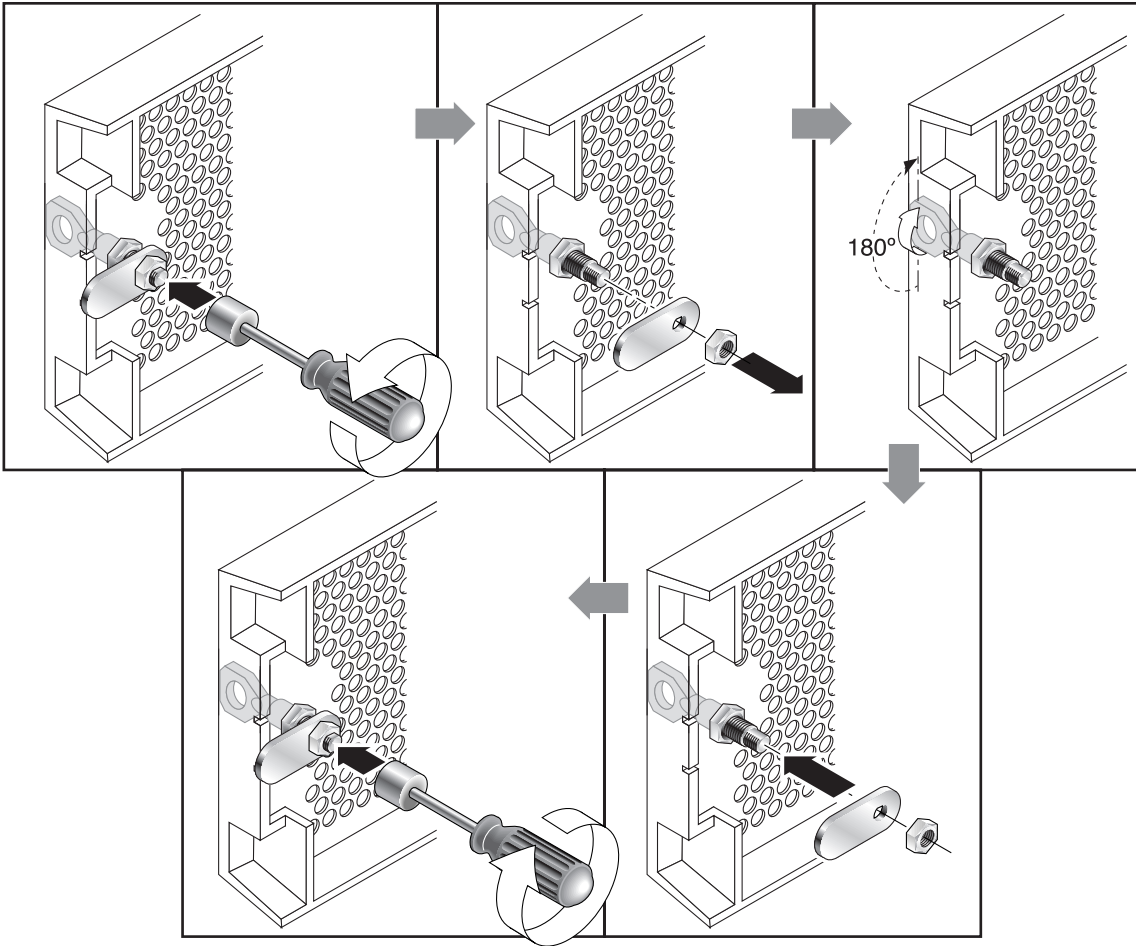

FIGURE 4-2 Sequence of Steps to Change Front Bezel Locks So Keys Cannot Be Removed
3. Hold the key in place and use a 3/8-inch (12-mm) nut driver to remove the locking nut that holds the pawl in place, as shown in the first panel of FIGURE 4-2.
4. Lift the pawl off the threaded part of the lock body, as shown in the second panel of FIGURE 4-2.
6. Use the key to turn the lock 180 degrees, as shown in the third panel of FIGURE 4-2.
7. Replace the pawl in the same orientation as before, as shown in the fourth panel of FIGURE 4-2.
8. Hold the key in place and use the nut driver to refasten the locking nut that holds the pawl in place, as shown in the fifth panel of FIGURE 4-2. Be careful not to cross-thread the nut.